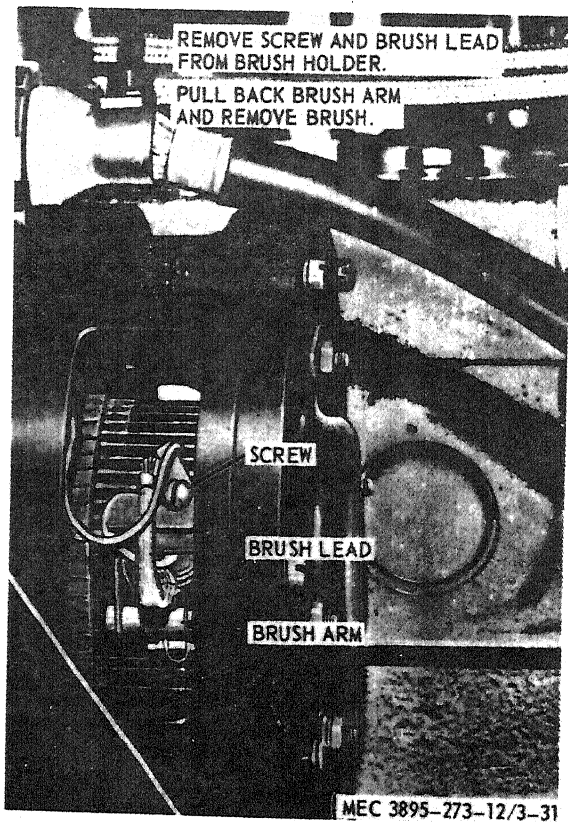

Figure 3-28. Generator brush replacement.
- (2) Remove brushes as instructed on figure 3-28.
- (3) Inspect the commutator for severe pitting, grooving, discoloration, or high mica between segments.
- (4) Install new brushes in reverse of the instructions on figure 3-28.